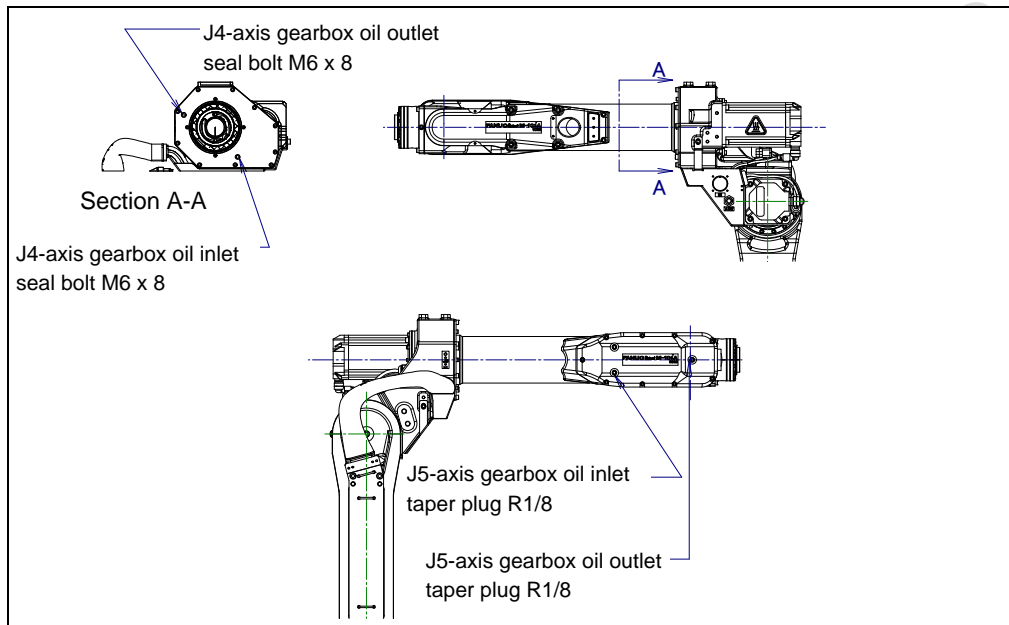

Fig. 4.3.2 (a) Greasing point of J4, J5-axis gearbox
- 3 Remove the seal bolt. (Fig.4.3.2 (a))